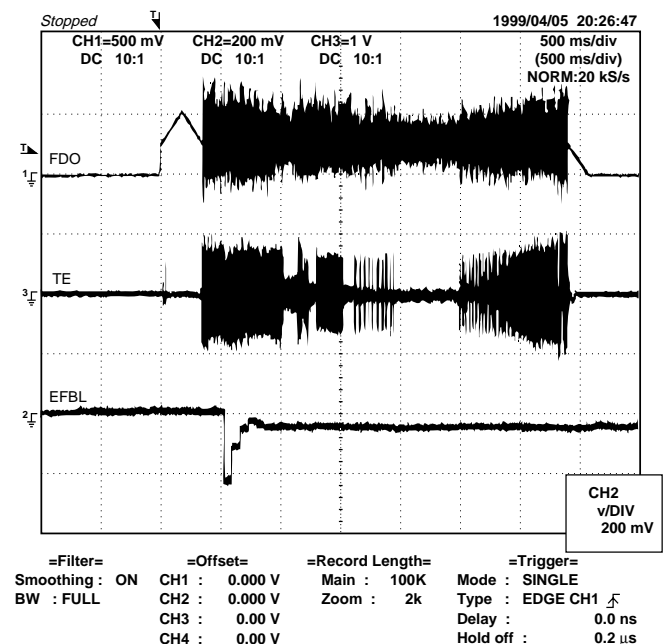

Figure 15-2
- Tracking balance adjustment (waveform drawing Fig.15-2 EFBL)